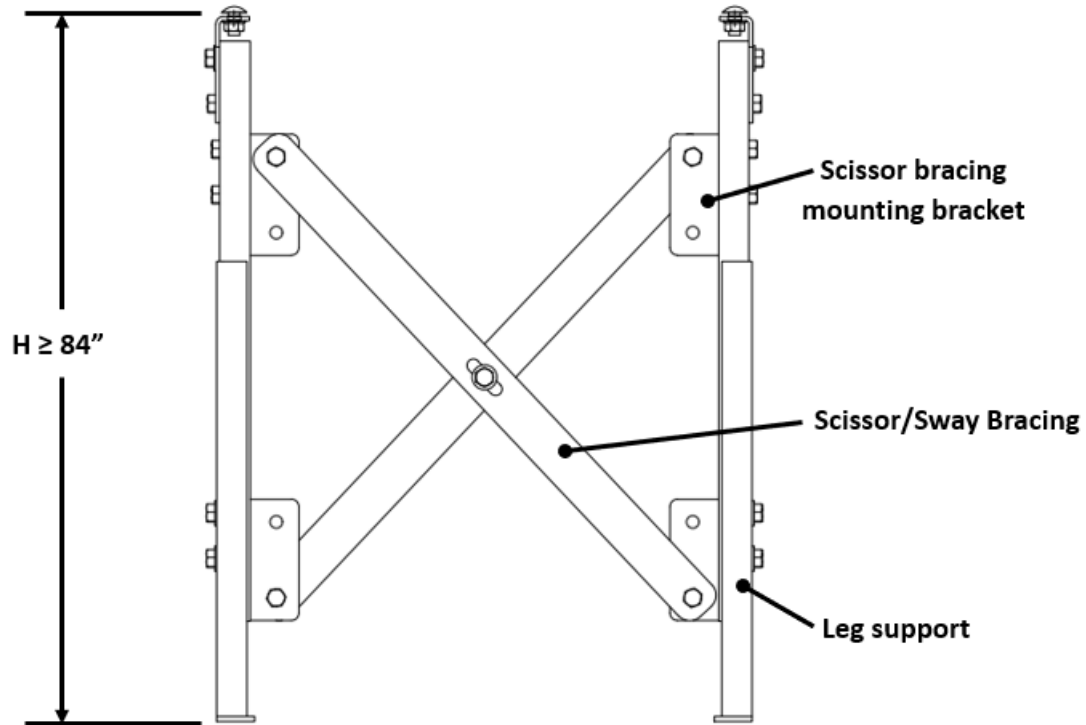

Figure 57: Scissor Bracing
heights exceed 84 inches. Scissor bracing should be installed on every third support when the support height equals or exceeds 84 inches. Each scissor brace should include (4) scissor mounting brackets and (2) scissor brace straps. See Figure 57.